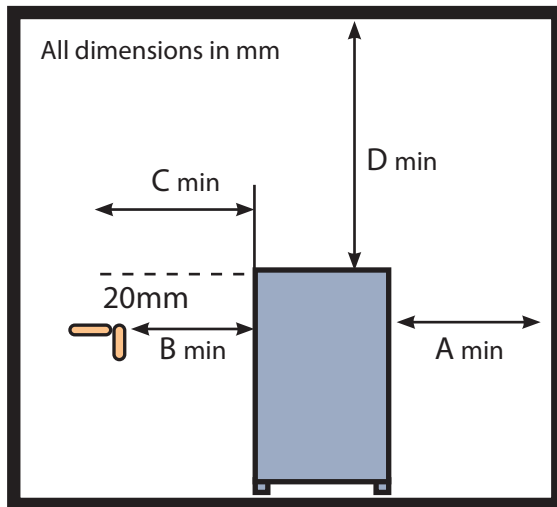

Fig 4a
- iii. The installation position must comply with the minimum distance in the chart 4 and in the diagrams Fig4a and 4b on page 10.
- iv. The minimum height of your sauna room must be 1900mm, please refer fig 4a